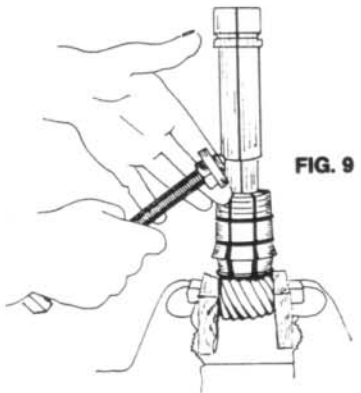

FIG. 9
4. Screw SPLIT TUBE NUT onto the JACK SCREW 3 turns. (Fig. 9)